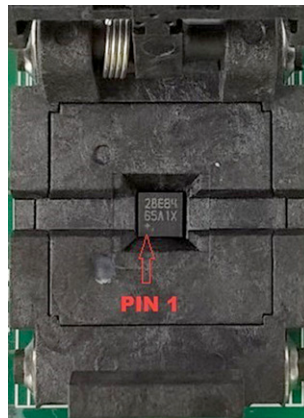

Figure 8. Orientation of the DS28E84 and DS2476 in the Burn-In Socket
- (Optional—Perform only if using the coprocessor): Open the 1st socket and insert a DS2476 into one of the cavities, as shown in Figure 8.
- Open the 2nd socket and insert a DS28E84 into one of the cavities, per the same orientation shown in Figure 8.